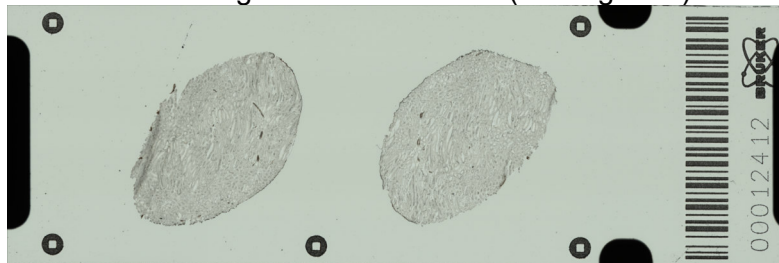

Figure 1. Example of IntelliSlide scan using TissueScout.
1. Please create your optical pre-measurement scan before matrix coating. We recommend using the Bruker TissueScout for scanning samples. The entire IntelliSlide including all teach marks, barcode and Bruker logo must be scanned (see Figure 1).